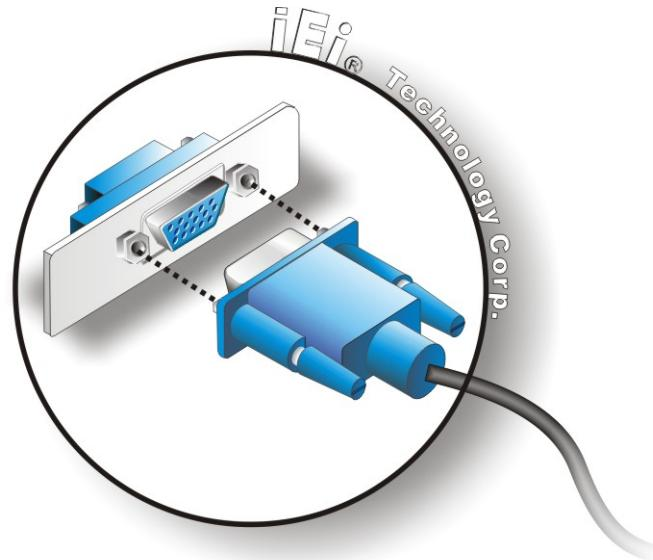

Figure 4-21: VGA Connector
Step 3: Insert the VGA connector Once the connectors are properly aligned with the insert the male connector from the VGA screen into the female connector on the NANO-PV-D4251/N4551/D5251. See Figure 4-21.